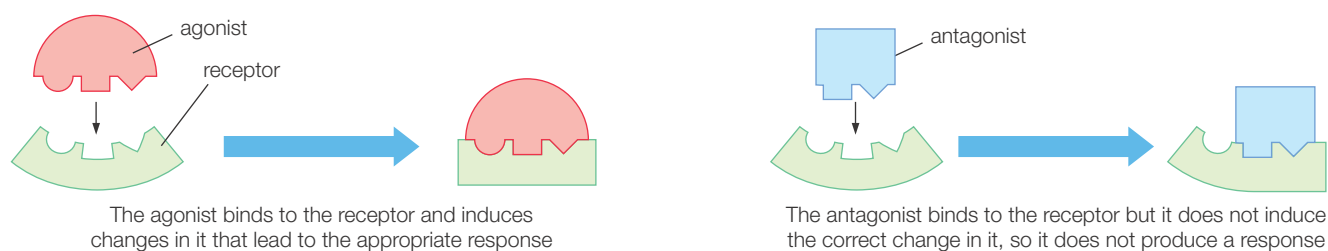

Figure 25.8 An illustration of an agonist and an antagonist binding to a receptor site on a protein molecule
- **Antagonistic:** the drug molecule blocks the ligand-binding site and stops the natural ligand from binding and activating the receptor (Figure 25.8).